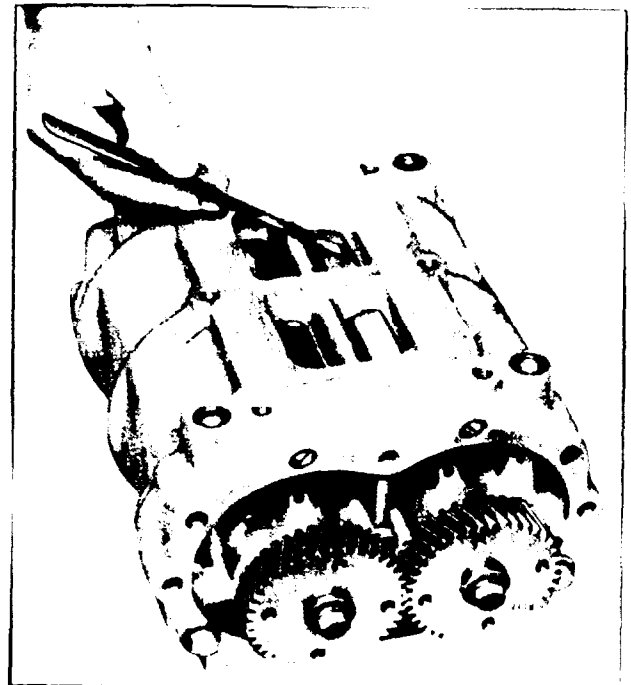
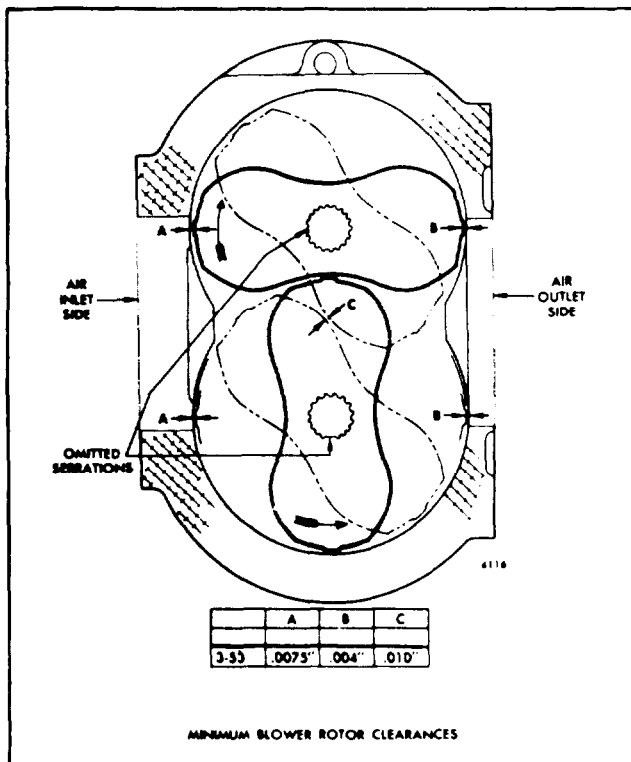

Fig. 14 - Measuring Rotor Lobe to Housing Clearance
Fig. 15 - Minimum Blower Rotor Clearance
8. Position the rotors so that the missing serrations on the gear end of the rotor shafts are 90° apart. This is accomplished by placing the rotors in a "T" shape, with the missing serration in the upper rotor facing to the left and the missing serration in the lower rotor facing toward the bottom (Fig. 14). Install the shims and spacers in the counterbore in the rear face of the rotor gears. Then place the gears on the ends of the
the housing as shown in Fig. 14. Take measurements across the entire length of each rotor lobe to be certain that a minimum clearance of .004" exist at the air outlet side of all blowers and a minimum clearance of .0075" (in-line engine blower) exists at the air inlet side of the blower (Fig. 15).
- b. Measure the clearance between the rotor lobes, across the length of the lobes, in a similar manner. By rotating the gears, position the lobes so that they are at their closest relative position (Fig. 15). The clearance between the lobes should be a minimum of .010"